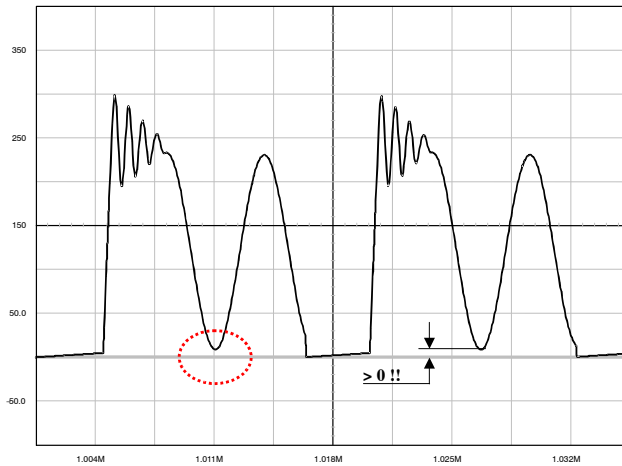

Figure 35. The Drain-Source Wave Shall Always be Positive
1. The lateral MOSFET body-diode shall never be forward biased, either during start-up (because of a large leakage inductance) or in normal operation as shown by Figure 35. This condition sets the
Figure 37a: the simple capacitor limits the voltage according to The lateral MOSFET body–diode shall never be forward biased, either during start-up (because of a large leakage inductance) or in normal operation as shown by Figure 35. This condition sets the maximum voltage that can be reflected during t_{off} . As a result, the Flyback voltage which is reflected on the drain at the switch opening cannot be larger than the input voltage. When selecting components, you thus must adopt a turn ratio which adheres to the following equation: Equation 3. This option is only valid for low power applications, e.g. below 5 W, otherwise chances exist to destroy the MOSFET. After evaluating the leakage inductance, you can compute C with Equation 4. Typical values are between 100 pF and up to 470 pF. Large capacitors increase capacitive losses...